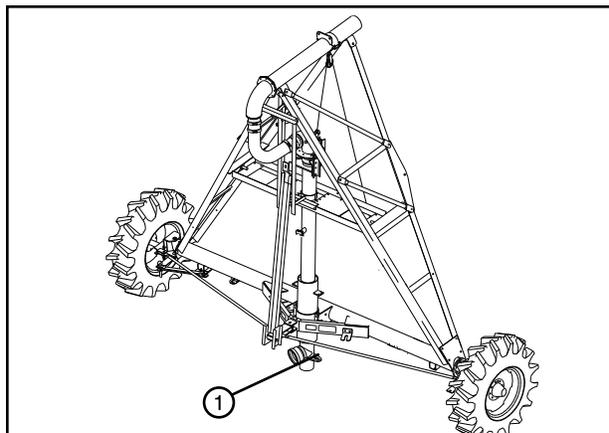

Figure 52-1 1. Riser Pipe
22. Connect the water supply line to the lower riser. See Figure 52-1.